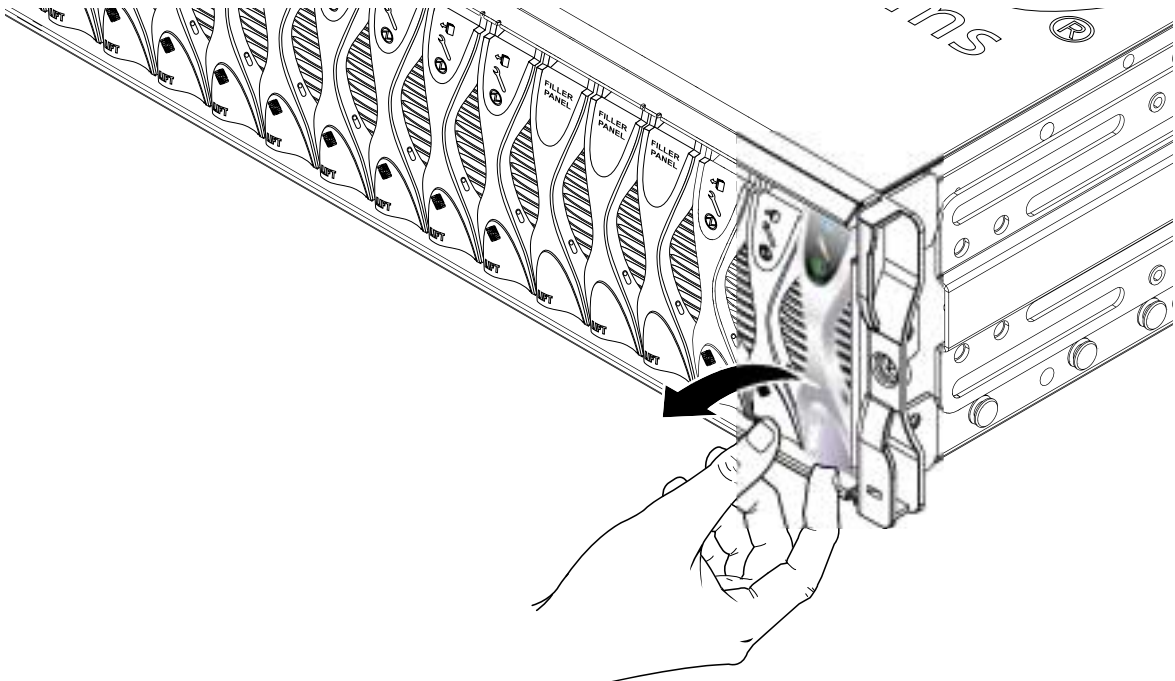

FIGURE 2-2 Disengaging the Blade-Locking Mechanism
2. Pull the lever mechanism in a forward and upward motion, causing the filler panel lever to unlatch and eject the filler panel partially from the system chassis (FIGURE 2-2).